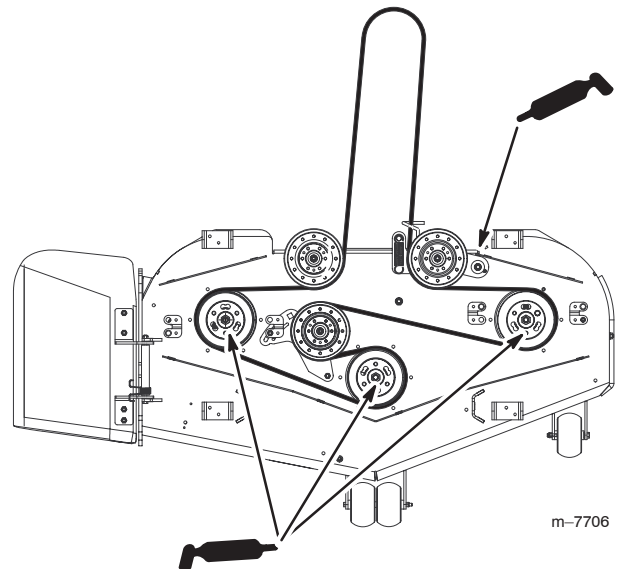

Figure 39
3. Grease the fittings on the 3 spindle bearings (Fig. 39).
4. Grease the idler pulley pivot (Fig. 39).